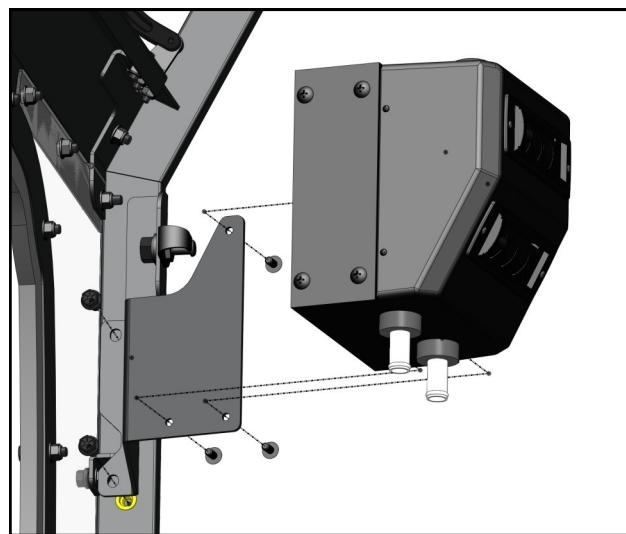

Fig. 12.1 (Heater)
**12.1** Attach the heater bracket to the right A-Pillar. See Figure 12.1. Tighten hardware.
**12.2** Attach the heater to the heater bracket using the screws already installed on the side of the heater. See Figure 12.1. Tighten hardware.